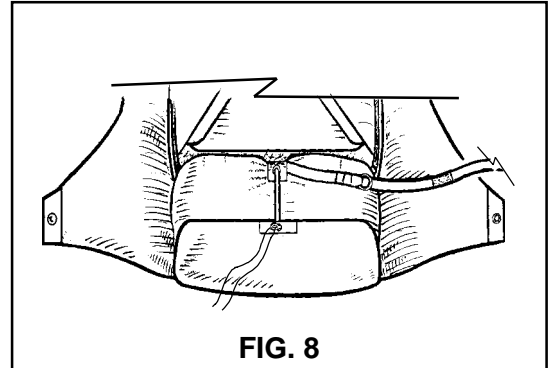

FIG. 8
11. Thread the pull-up cord through the closing loop and bring the closing loop over the top of the bag. The bridle should be routed to the right of the closing loop. Thread the pull-up cord through the bottom flap grommet and close the bottom flap (**FIG. 8**).